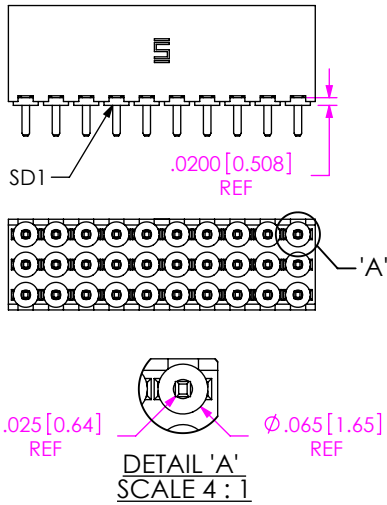

FIG 3
- *-SD1: SOLDER DONUT (SEE FIG 3, SHT 2) (AVAILABLE ON -S, -D, -T ONLY)